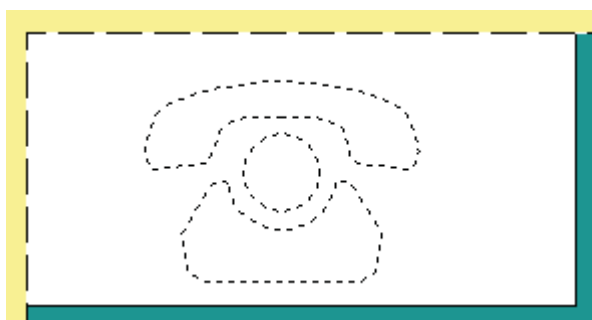

Figure 10
- 1 Select the Text or Logo, by Holding Down the left mouse and Dragging a box around the objects, they will go Dotty, see Figure 10.